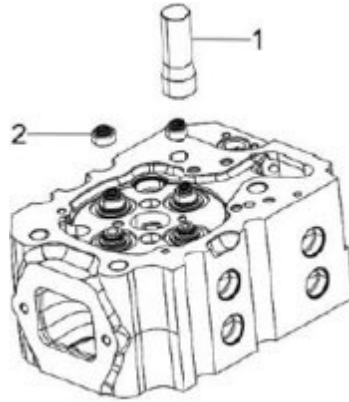

Figure 70. Valve Stem Seal Installation Tool
2. Oil the lip of the valve stem seal (Figure 70, Item 2). Using the valve stem seal installation tool (Figure 70, Item 1), install a new valve stem seal on each of the valve guides.